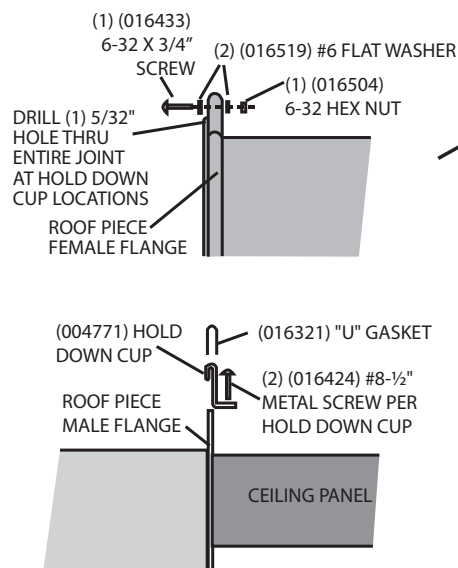

FIGURE 2
- E. The next section to be installed is a center section (It has a female flange on one side). Position the section so this flange fits over the rubber gasket on the installed section. Using a hammer and a block of wood, seat the female flange firmly onto the male flange of the previous section. Drill a 5/32" hole through the entire joint at the positions of the hold-down clips only, and insert (016433) #6-32 bolt, (016504) #6 hex nut and (016519) #6 flat washer through each hole. See Fig. 2. Apply roofing cement around bolt. Note: Dimensional accuracy must be maintained throughout the installation to insure proper fit of roof.
- K. Drill 5/32" hole through entire joint at position of hold-down clips only, and insert (016433) #6-32 bolt, (016504) nut and (016519) #6 flat washer. Apply the roof cement. See Fig. 2.